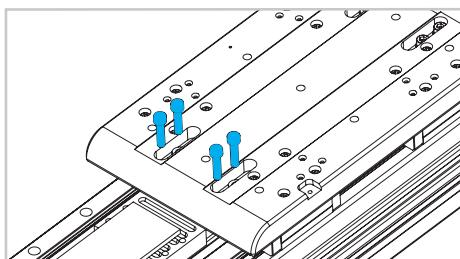
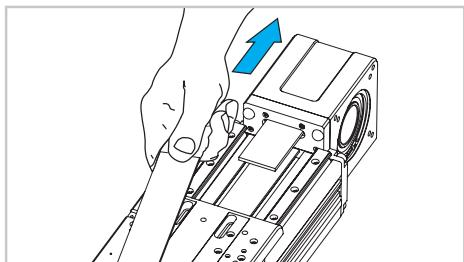

Fig. 5
Fig. 6
- 2) Remove the belt tensioner untightening both the vertical and horizontal screws on the carriage (Fig. 3 - Fig. 4 - Fig. 5)
- 3) Remove the drive belt from both ends of the carriage (Fig. 5) and pull off (Fig. 6). To re-assemble the belt, carry out the same operations in the opposite way repositioning the belt tensioner at the initial distance X.